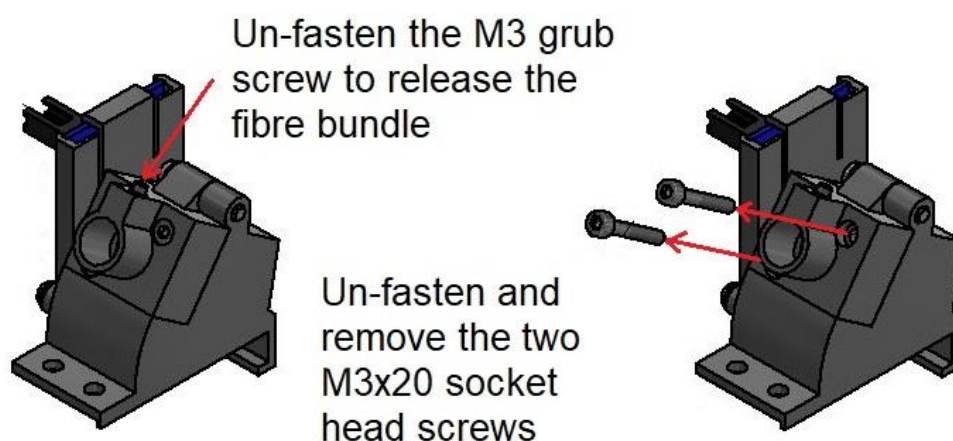

Figure L-5 Removing the fibre bundle
5. Unfasten the m3 grub screw and release the fibre bundle from the mount. Then unfasten and remove the two M3 x20 socket head screws as shown in figure L-5.